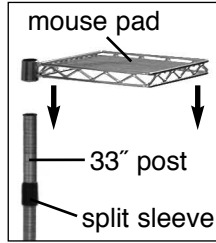

Figure 3
- Assemble split sleeve onto 29" mark on either left or right 33" post (see *Figure 3*), depending on preference.